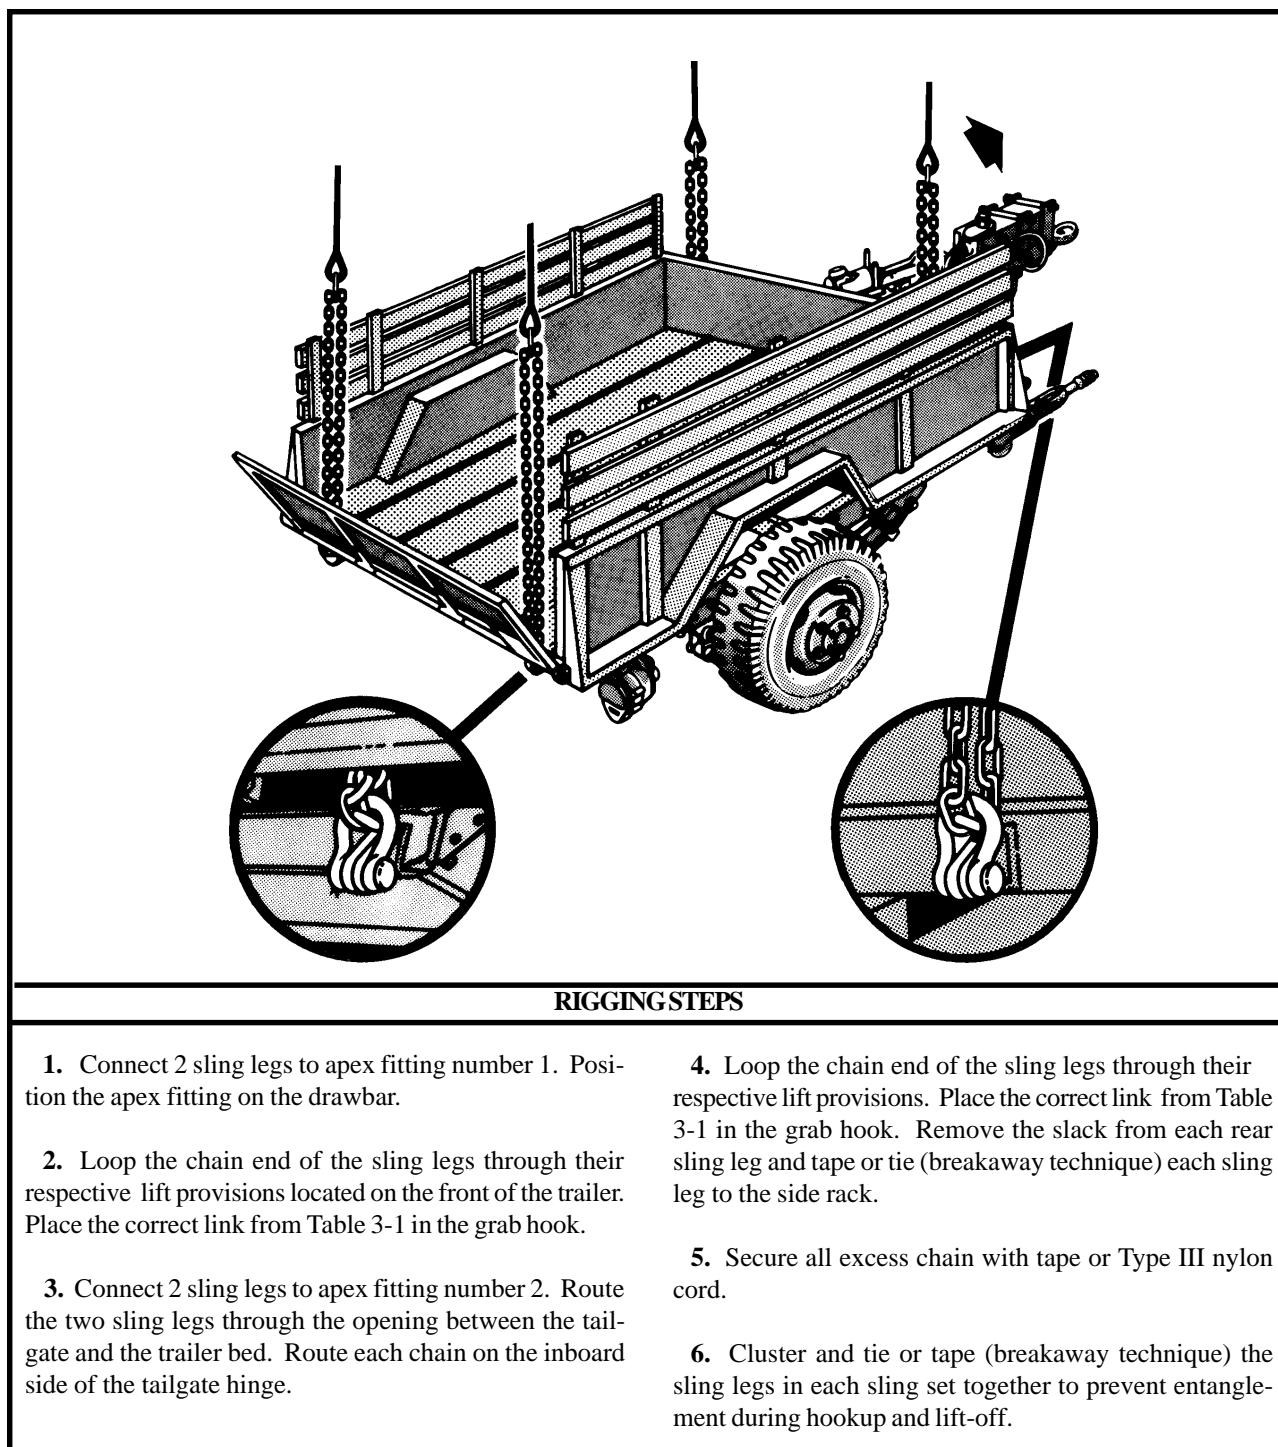

Figure 3-1. M101A2 3/4-Ton Trailer
(2) **Rigging.** Rig the load according to the steps in Figure 3-1.
(4) **Derigging.** Derigging is the reverse of the preparation and rigging procedures in steps d (1) and d (2).